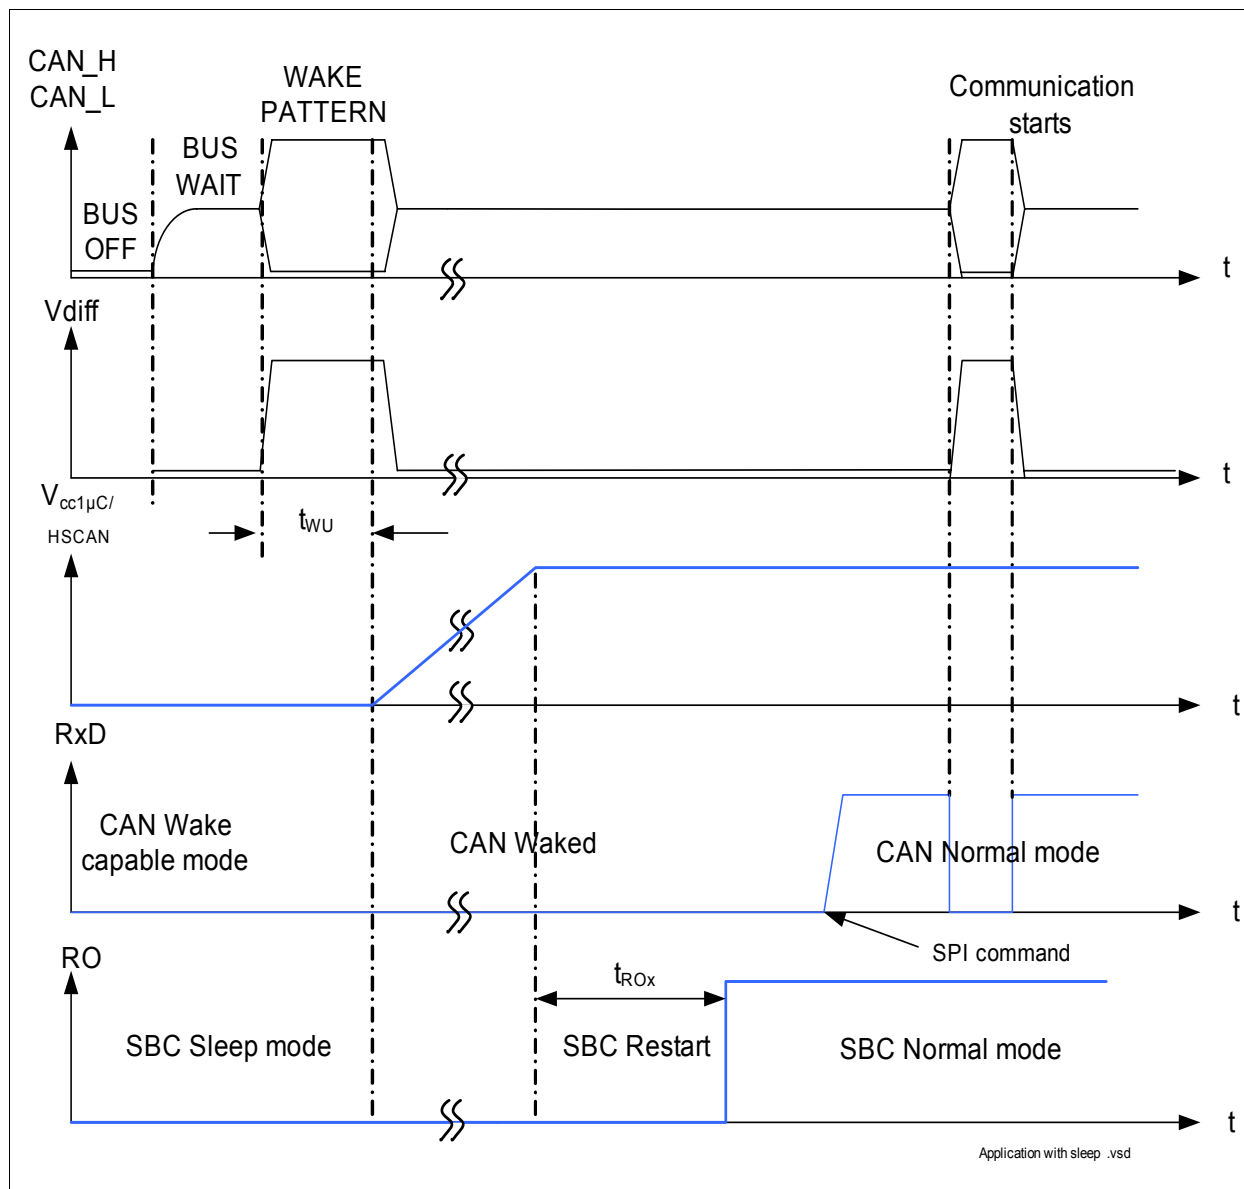

Figure 11 Timing during Transition from Sleep to Normal Mode
Wake-up is possible via a CAN message (filtering time $t > t_{WU}$), it automatically transfers the SBC into the SBC Restart Mode and from there to Normal Mode the RxD pins in set to LOW, see Figure 11. The microcontroller is able to detect the low signal on RxD and to read the wake source out of the "Wake Register Interrupt" register (000) via SPI. No Interrupt is generated when coming out of Sleep Mode.
In SBC Sleep Mode, a wake-up on the CAN cell will set the SBC to Restart Mode automatically if the CAN Wake Capable Mode of the SBC is selected via SPI. **Figure 11** shows the typical timing.